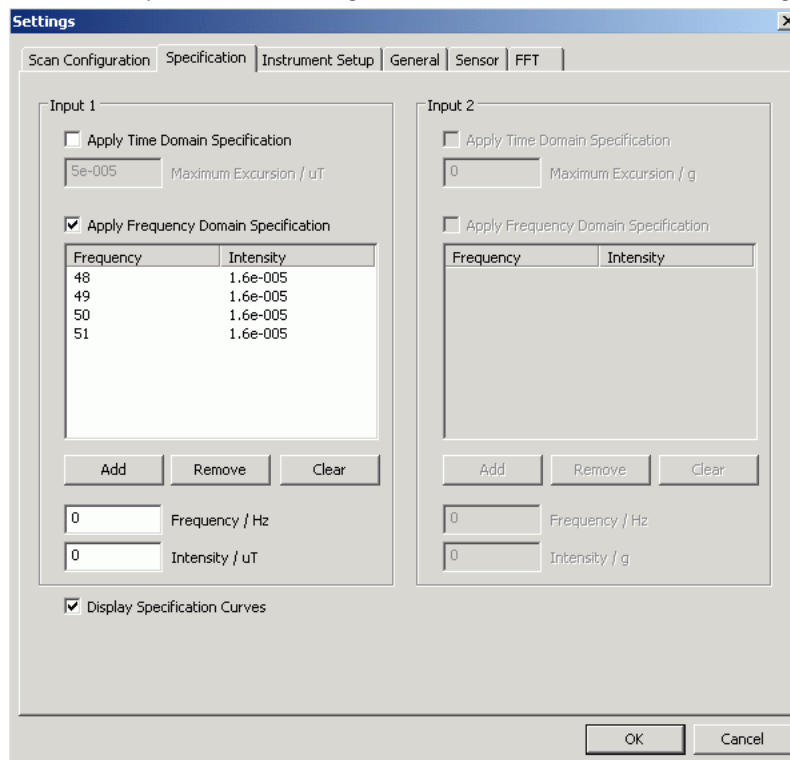
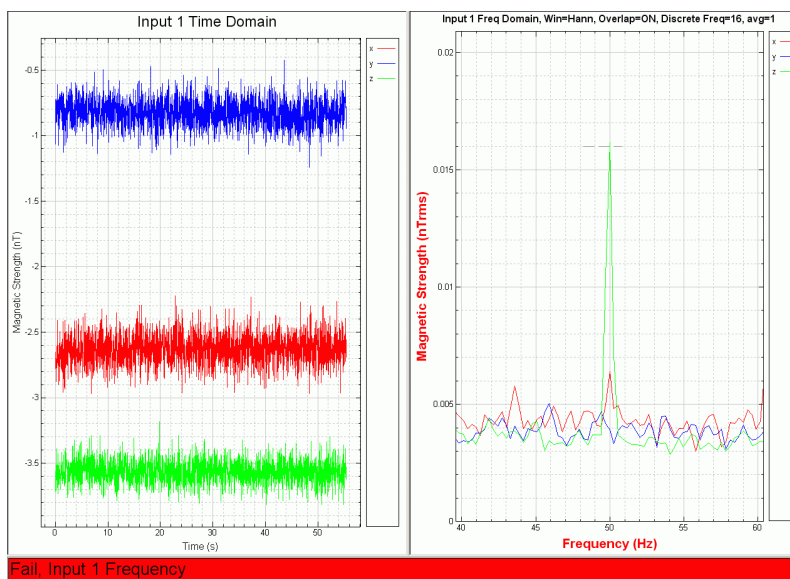
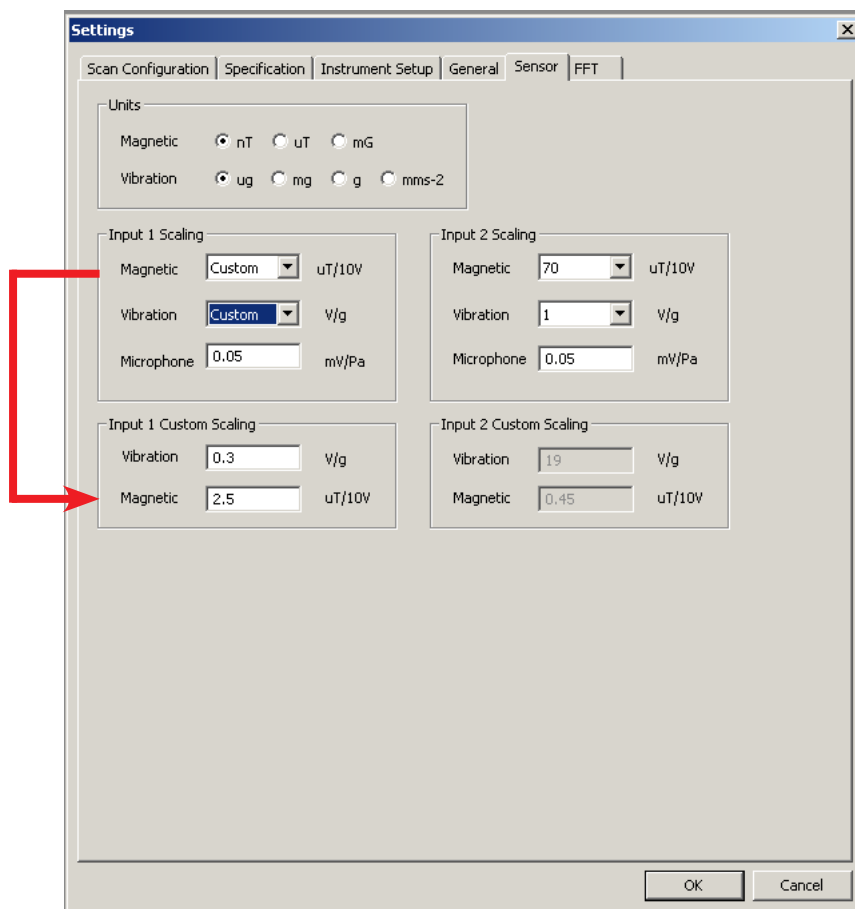
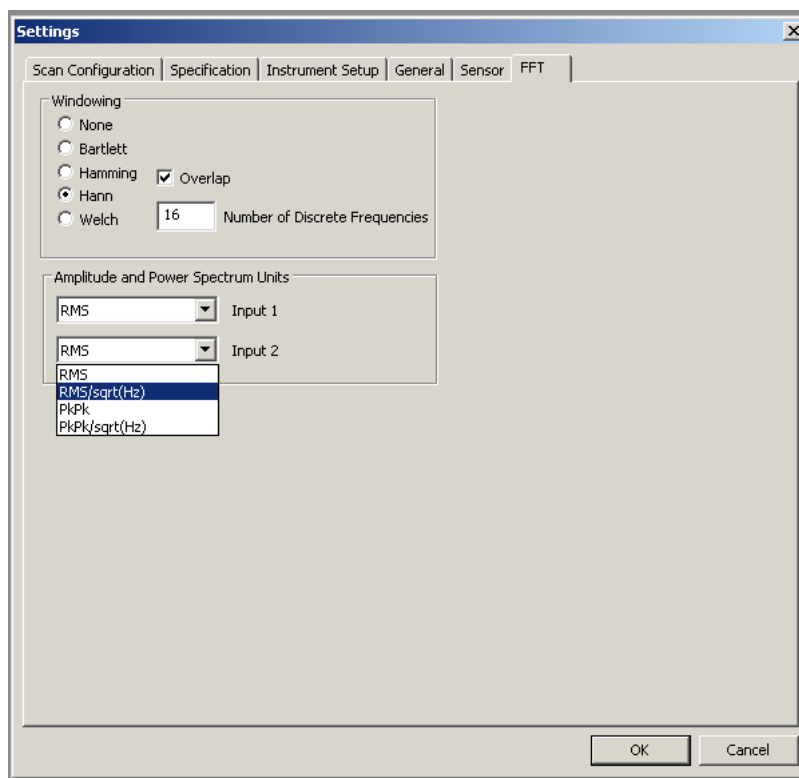

Figure 7: Setting the Pass/Fail limits in the Spectramag-6 software.
Figure 8: Test failure when the measured signal exceeds the set limits.
Figure 11: The Sensor sub-menu.
Figure 12: FFT settings for the Spectramag-6 software.
The **Specification** sub-menu lets the user set values (for time or frequency domain or both) that will cause a test to fail when exceeded. The user-defined pass/fail limits apply to all input groups. The values set might correspond to acceptable magnetic field, vibration or sound levels during a test, or in the case of an MRI site survey, might correspond to an equipment manufacturer's specification. A pass/fail limit is set from the **Scan** → **Configure** → **Specification** tabs as shown in **Figure 7**.
The time domain specification is used to set the peak amplitude excursions (about a stable ambient value) in time above which a test fails. Such features are desirable in site surveys, for example, as the acceptable signal level can be set in Spectramag-6 according to the allowable limits or according to the desired signal level in a test. This is an important time-saving feature given that a user is instantly notified of the failure of a test (at the point of detection). A decision can then be made whether to terminate a test or not or to restart a test, say at a new location. The maximum excursion is set by ticking the **Apply Time Domain Specification** checkbox and entering the desired value in an input box (**Figure 7**). The program detects both the positive and negative excursions from the ambient (zero signal) level.
This feature is useful for specifying both the amplitude (rms) and the frequency of the component to be detected. Both the amplitude and frequency limits are also set using the dialogue box in **Figure 7**, by entering each frequency value and its corresponding amplitude value in the Frequency/Hz and Intensity/uT boxes respectively, and clicking the **Add** button.
For effective detection, it is useful to set at least three other points of detection around the value of interest. For example, to detect a 16pTrms value at 50Hz, the following values can be set (as shown in **Figures 7** and **8**):
The plot in **Figure 8** shows the outcome when the measured signal exceeds the set limit at 50Hz, at which point a failure was indicated. Notice that the limits set in **Figure 7** are in rms, hence rms should be selected [using a drop-down menu under the **FFT** sub-menu (**Figure 12**)] when displaying the results from the pass/fail tests so that the pass/fail results will also be in rms.
The **Sensor** sub-menu (**Figure 11**) allows a user to select their preferred units for magnetic field, vibration and sound measurements. In **Units** the options for magnetic field are nT,  $\mu$ T and mGauss (mG) whilst the options for vibration are  $\mu$ g, mg, g or  $\text{mms}^{-2}$ .
The **Input 1** and **Input 2 Scaling** settings allow the correct sensor scaling to be selected. The **Magnetic** scaling corresponds to the available range of Bartington Instruments' compatible sensors from  $70\mu\text{T}/10\text{V}$  to  $1000\mu\text{T}/10\text{V}$ . There is also a Custom option that lets the user enter a custom magnetic scaling (in the Input 1 or Input 2 Custom Scaling boxes), as shown by the red arrow in **Figure 11**. The **Vibration** box allows the accelerometer scaling to be set to  $1\text{V}/\text{g}$ ,  $10\text{V}/\text{g}$  or Custom. Similar to the **Magnetic** scaling, selecting the **Custom option** from the box activates **Input 1** or **Input 2 Custom Scaling** input boxes, letting a user enter custom scaling factors for the accelerometers connected to each input group of the Spectramag-6 unit. The microphone scaling is set via the **Microphone** input box and the value should be set (as a default) to  $50\text{mV}/\text{Pa}$  to match the recommended microphone specification.
FFT windows are useful for minimising spectral leakage that causes power to leak from each spectral component to all other bins. The leakage from strong spectral components often completely swamps weaker components, making them hard to detect or resolve in frequency: hence FFT windows are extensively used for Fourier analyses. There are five FFT windows in Spectramag-6 (**Figure 12**) that can be selected, namely:
**Note:** Overlap processing is a method used to reduce such data loss by recovering the data normally eliminated by the tapering ends of FFT window functions. In overlap processing a longer data set (more than that required to produce a desired frequency resolution) is normally obtained. This data is then broken into segments which are overlapped, windowed and FFTed: the results are then combined. In Spectramag-6 the overlap feature can be selected by ticking a box as shown in Figure 12. The percentage overlap is fixed at 50%.
Each option is selectable via a drop-down menu as shown in **Figure 12**.
These four options are available to all input types and measurements. For example, when a magnetometer is selected as the input source (**Figure 5**) and nanoTesla (nT) is selected as the unit (**Figure 11**), the output is displayed as nanoTesla-rms (i.e. nTrms) or nTrms/√Hz based on whether rms or rms/√Hz is selected in the drop-down menu in **Figure 12**. Similarly if the accelerometer is selected as the input source and the unit is set to microgravity (μg), then the output plot is displayed as μgrms or μgrms/√Hz based on whether rms or rms/√Hz is selected in **Figure 12**. Other units can be selected in a similar manner. **Table 4** shows more examples of how the units for the graphical plots are selected.